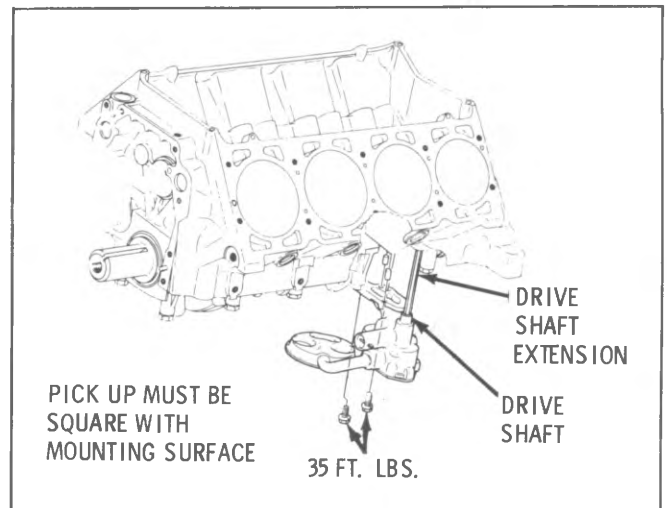

Fig. 6A3-57--Oil Pump Installation
2. Position pump onto the rear main bearing cap and install attaching bolts. Torque bolts to 35 lb. ft. (47 N·m) (Fig. 6A3-57).